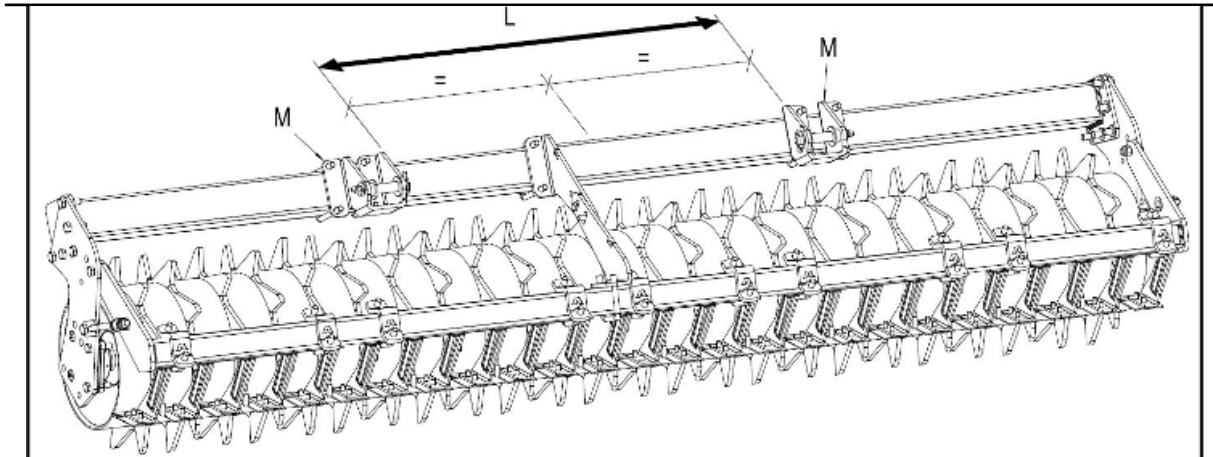

Fig. 12 Installation "auto-level" configuration
1. Install the brackets **M** on the roller at a distance **L** of 1130mm (figure 12)